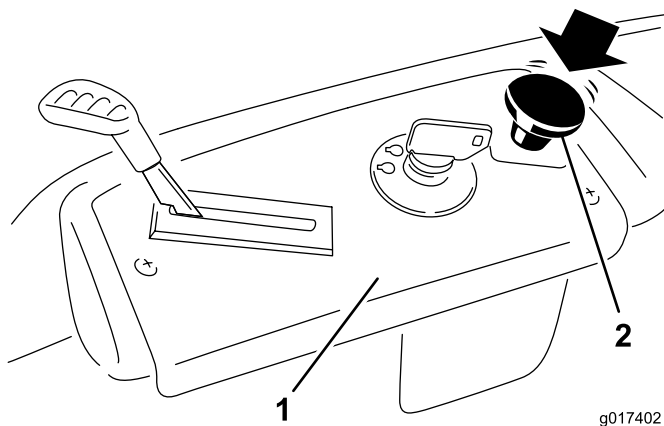

Figure 11
2. Disengage the blades by moving the blade control switch to Off (Figure 11)